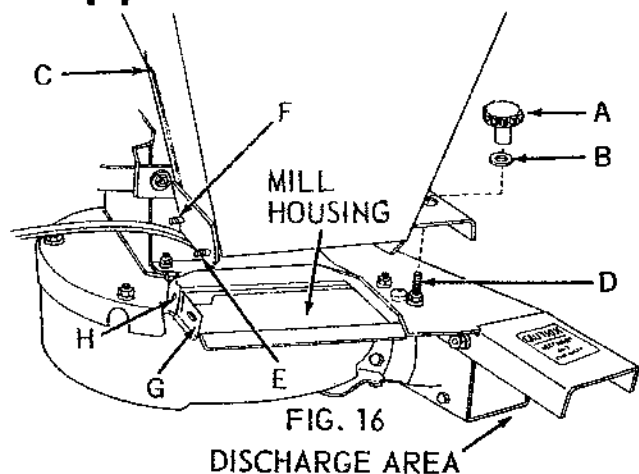

FIG. 16
1. Lift and tilt hopper (C), into position as shown in Fig. 16. Insert weld pin (F), into round hole (H), of engine pad. Pivot hopper until weld pin (E) enters slot (G), of housing breaker.
2. Lower hopper until hole in lower left hand side of hopper engages bolt (D). Secure in place with flat washer, and hold down knob (B).